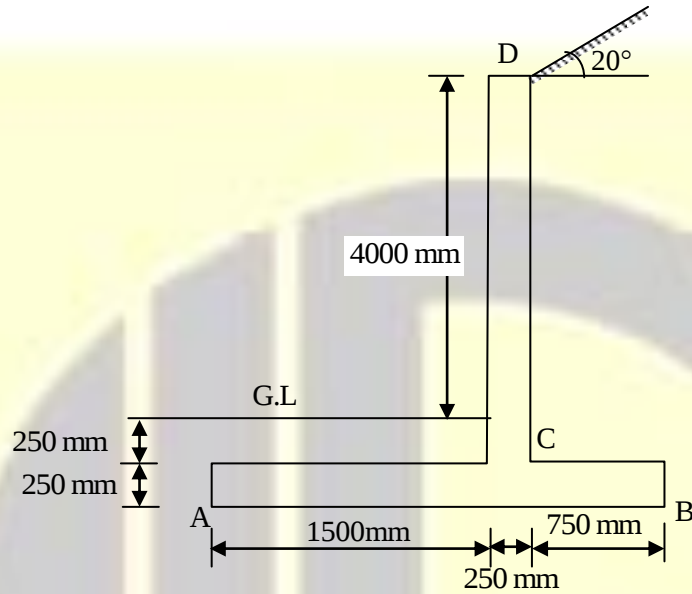

Figure 14
- (c) Check the safety and stability of the retaining wall shown in Figure 14. Safe bearing capacity of soil = 80 kN/m^2 , coefficient of friction between soil and concrete = 0.55, angle of repose of earth = 35° , density of earth = 19 kN/m^3 .